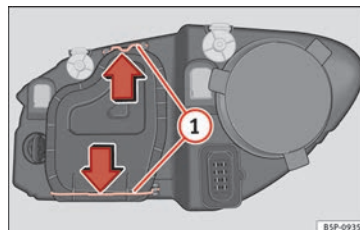

Fig. 178 Dipped beam headlights.
- Move the loops » Fig. 178 **1** in the direction of the arrow and remove the cover.